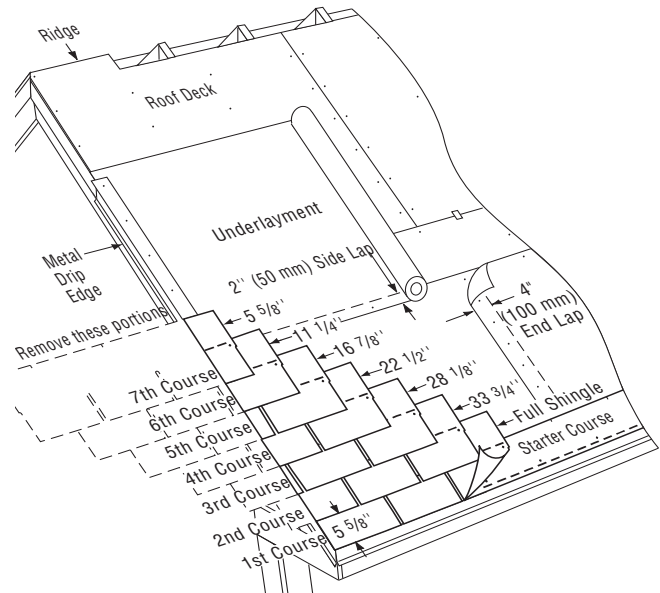

Figure 10-14: Applying the first 7 courses on a standard slope.
**1ST COURSE:** Apply a full shingle at the lower left corner of the roof. Make tabs lie flush with the edges of the starter course. In this way, sealant on the starter strip will adhere to the first-course tabs and help keep them from lifting in high winds (*Figure 10-14*).
1. Cut 55/8" off the left side of a shingle and install this 333/4" piece over and above the first-course shingle, in line with the left edge of the starter course (*Figure 10-14*).
2. Cut 111/4" off the first shingle of the third course, 167/8" off the first shingle of the fourth course, 221/2" off the first shingle on the fifth course, 281/8" off the first shingle of the sixth course, and 333/4" off the first shingle of the seventh course. Apply each with its left edge in line with the previous course (*Figure 10-14*).